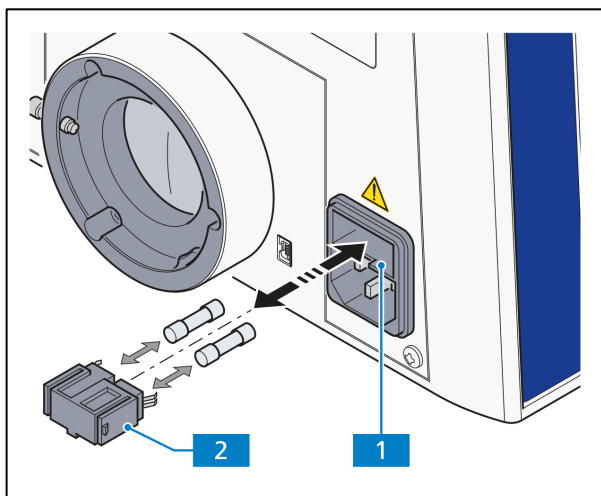

Fig. 5-1 Replacing the fuses in the stand
- Pull the fuse retainer (Fig. 5-1/2) out to the front with the aid of a small screwdriver, if necessary.
- Push the fuse retainer back into the compartment (Fig. 5-1/1) to the stop.